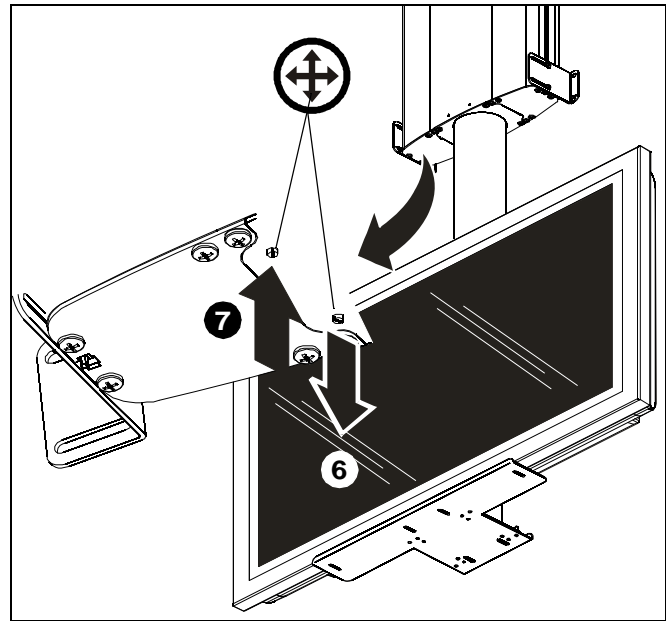
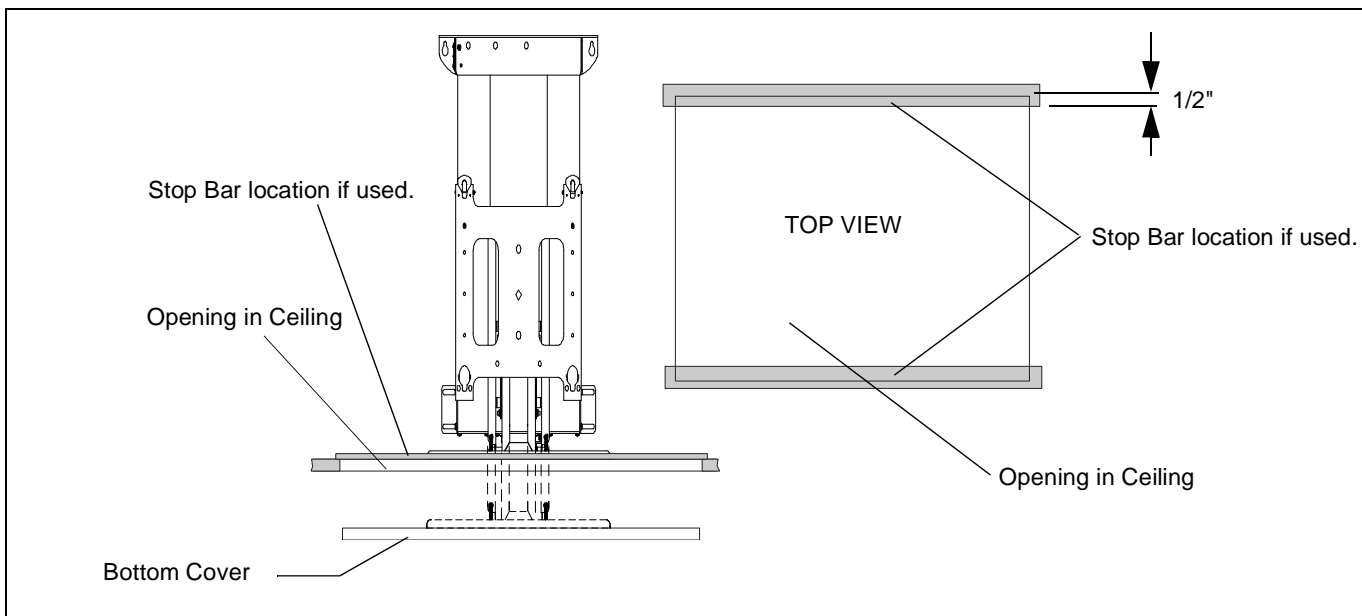

Figure 26
Figure 27
*See Bottom Cover Location Adjustment on page 14 and See (See figure 27)*
There is an upward travel limit adjustment screw and a downward travel limit adjustment screw located on the top right hand side of the mount. (See figure 27)
8. Adjust travel until bottom cover is flush with ceiling. (See figure 26) and (See figure 27)